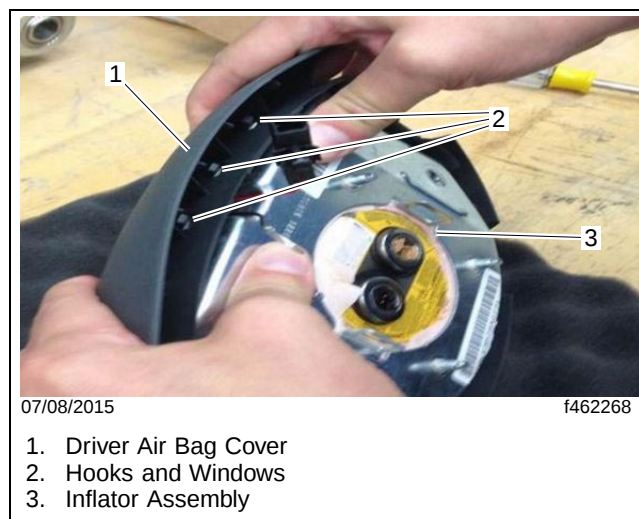

Fig. 5, Disengaging the Top Inflator Assembly Hooks
- 12.2 Unsnap the top hooks by pressing down on the inflator assembly until the hooks unsnap from the air bag cover windows. See **Fig. 5.**